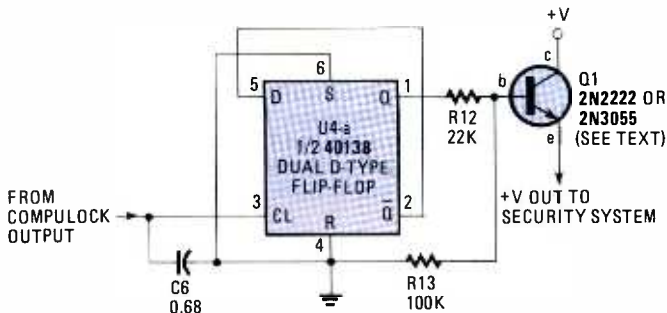

Fig. 3—The toggle-type output allows the Compulock to turn a security system on and off with successive entries of the combination.
The output of the basic Compulock circuit can be used to directly drive some circuits; but for most applications, one of the two output circuits shown in Fig. 3 and Fig. 4 will be required.
What does it mean when an amplifier has a bandwidth of 20 Hz to 20 kHz at $-3dB$ down and rolls off at $-6dB/octave$? Figure 3 illustrates the amplifier's frequency response. The bandwidth (BW) is given by:
An octave is a frequency that is double the previous frequency. If the $-dB$ break frequency is 20 kHz, then the next octave is 40 kHz, then 80 kHz, and so on (see Fig. 3). At the 40 kHz point, the output voltage has dropped to 0.354 volts. Therefore, the gain is now $20 \log 0.354/1$, which equals $-9dB$ —a $+6dB$ drop from the $-3dB$ break frequency. To sum it up, the output voltage rolls off at a rate of $-6dB$ per octave. Or said another way, for each $6dB$ drop, the output voltage is cut in half.